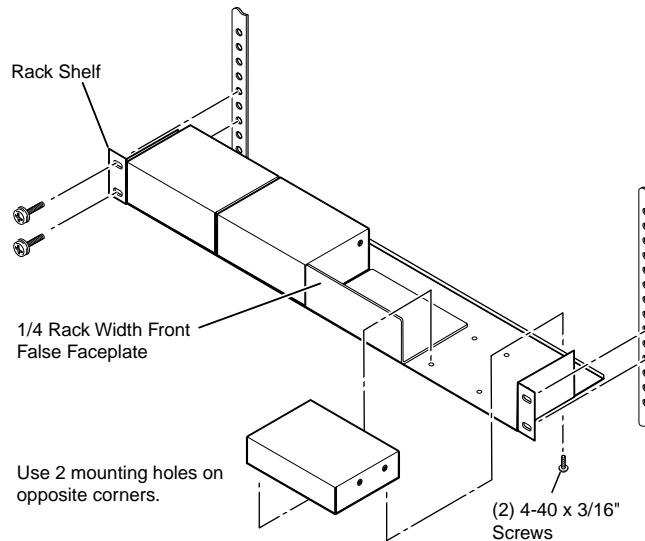

Figure 2. Mounting the Transmitter or Receiver unit on a 3.5-inch Rack Shelf
- RSF 123 3.5-inch deep rack shelf kit (part #60-190-20) (figure 2)
2. Mount the transmitter or receiver unit on the rack shelf, using two 4-40 x 3/16-inch screws in opposite (diagonal) corners to secure it to the shelf (figure 2).